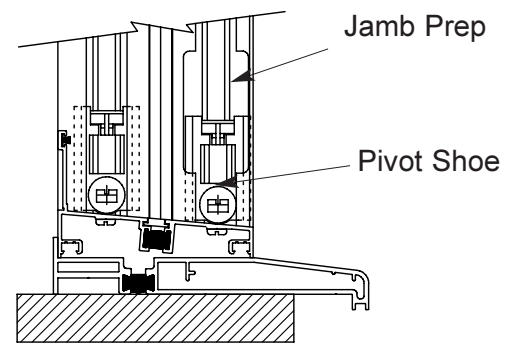

Fig. 19
- Fit the balance pivot shoes, by dropping them down the jambs through the slotted openings onto the frame cill. (Fig.19)